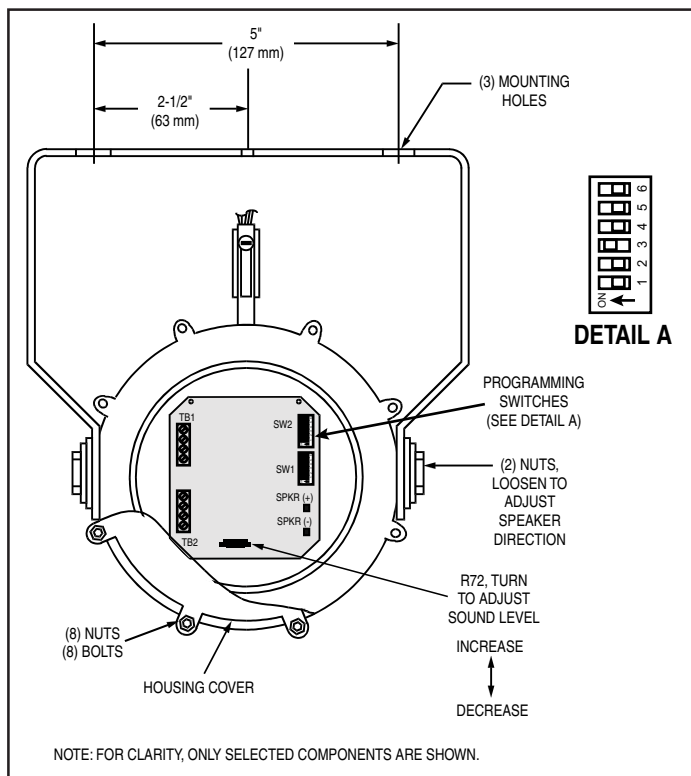

Figure 2. Adaptatone PC Board and Mounting Holes,
3. Set miniature programming switch on the printed circuit board (Figure 2) for the desired tone(s). Refer to tone program chart on inside cover and Table 1.
Select one tone and set SW1 (Figure 2).
6. The sound level is factory set to maximum. Adjust volume level, if desired, by turning potentiometer R72 (Figure 2).